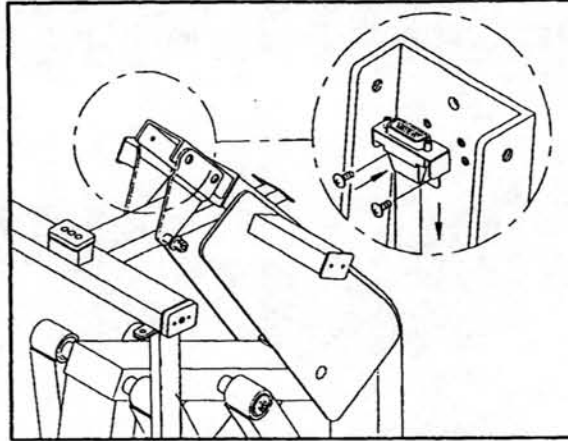

Fig.11-4
1. Replace a new RIBBON CABLE and secure its connector on the FRAME SUPPORT by screwing (fig.11-4).